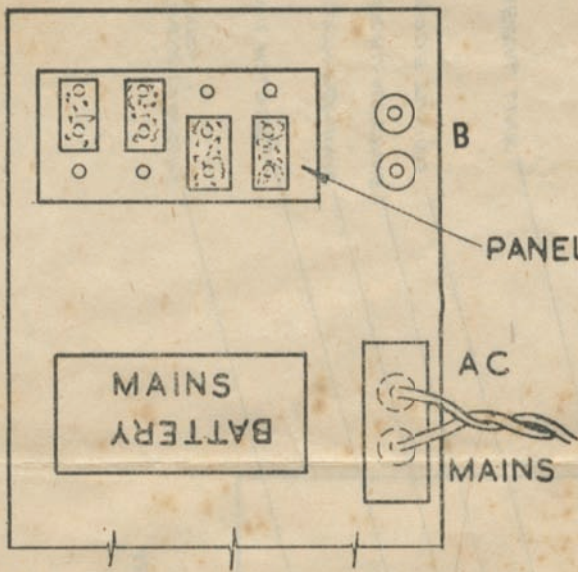

FIG. 1.
B. **To adjust the Power Plug to a known Voltage:** Insert the "Mains—Battery" plug to read "Mains" as in Fig. 1. The selection is made by inserting 4 small 2-pin plugs into the holes provided on PANEL A. (See Fig. 1.) The plugs must be pushed well in and cover the numbers which add together to the voltage required. Two plugs must always cover either the "205v" or "102v." The other two plugs are used to cover "+Ov.", "+10v" or "+20v." (See Figs. 1 to 9). Thus in Fig. 4, plugs (A) and (A) cover "205v," plug (C) covers "+20v" and plug (D) covers "+Ov." The Power Pack is now adjusted for a mains voltage of $205 + 20 + 0 = 225$ volts. In practice this setting is used for any voltage between 220 and 234 volts. Similarly in Fig. 9, the voltage is $102 + 20 + 10 = 132$ volts. This setting is used for any voltage between 127v and 140 volts.